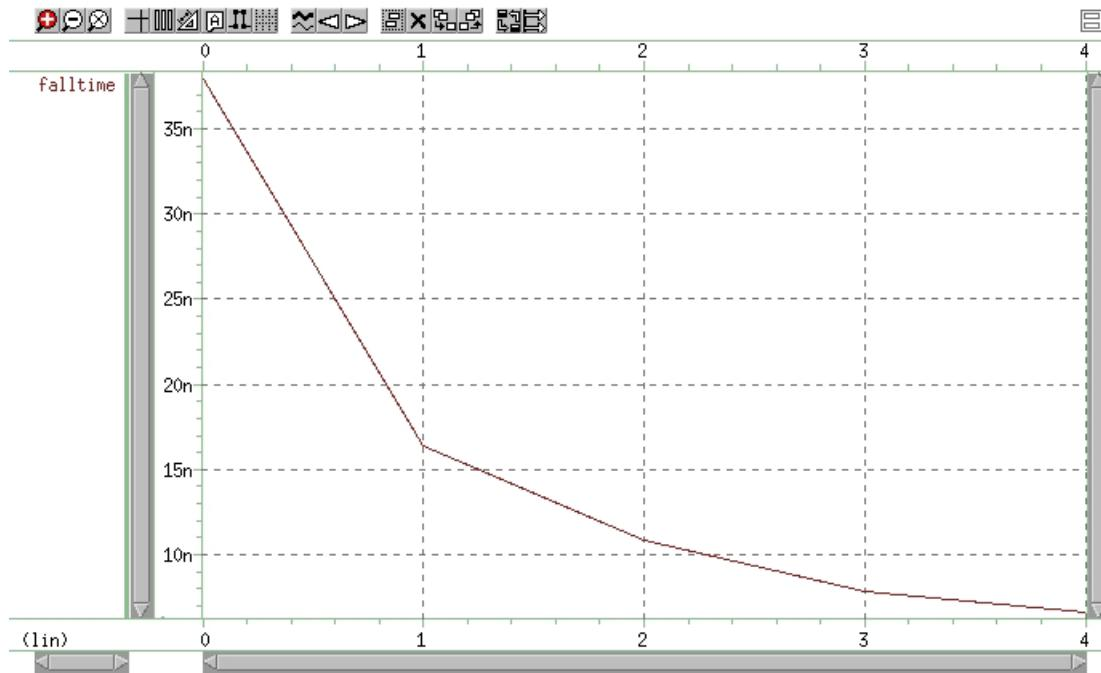

Figure 204 Plot of Measured Variable *falltime* vs. Amplifier Input Voltage
17. Left-click on the signal `falltime`. Drag and drop the selected signal into the WaveView panel. You should see a plot similar to the one shown in Figure 204 on page 1061.